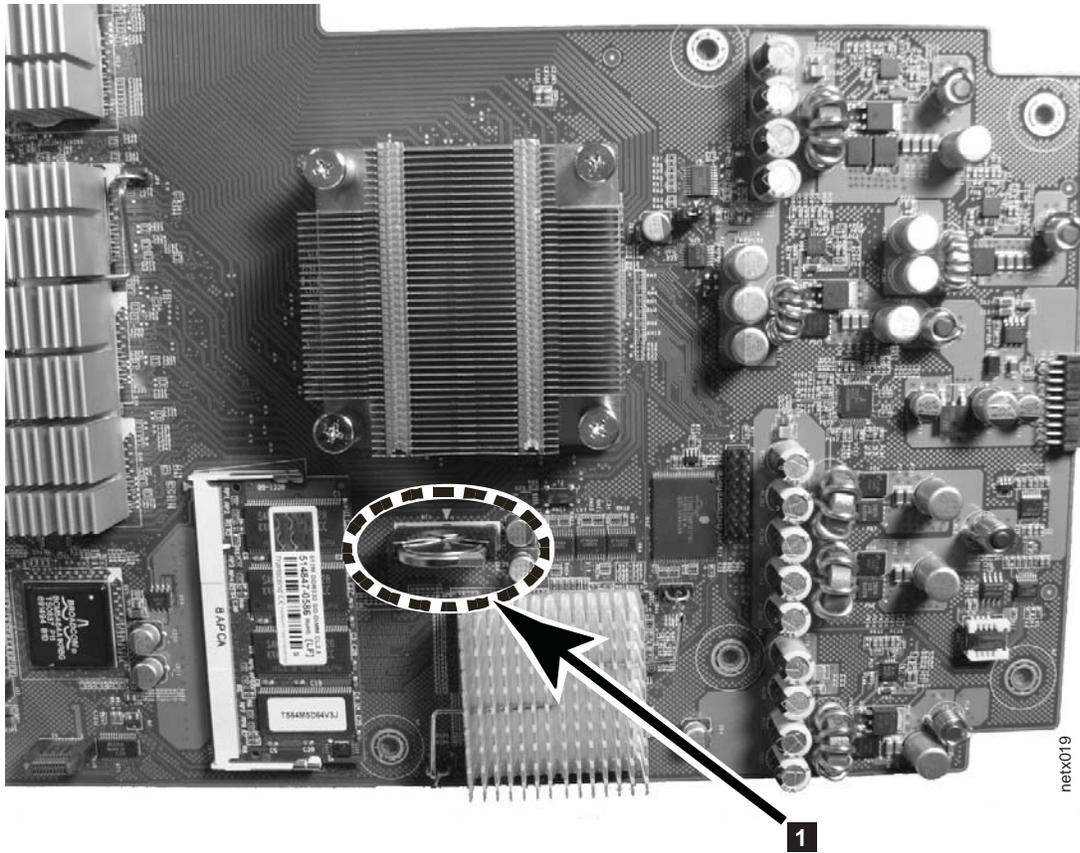

Figure 22. Removing the battery
4. Locate BT1 on the main PCBA and remove the CR2032 battery, quantity 1. See **1** in Figure 22 on page 39 for battery location.